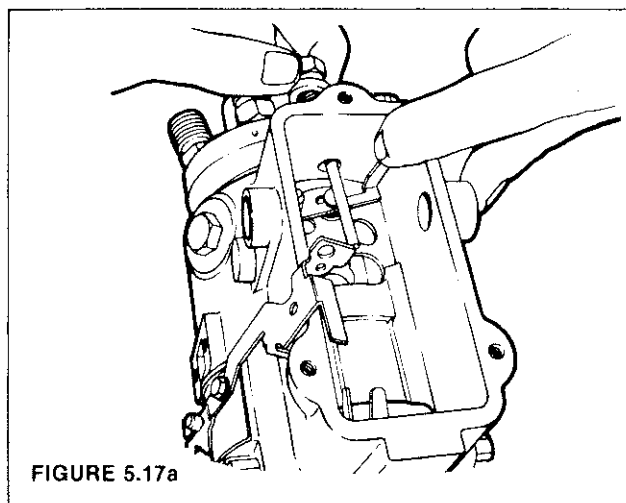

FIGURE 5.17a
STEP 17 Depress the metering valve assembly and install the guide stud and new guide stud washer into the housing and tighten (Figure 5.17a).